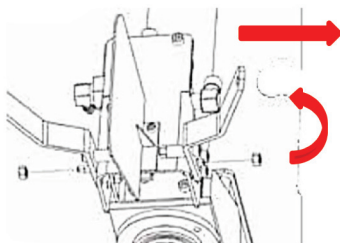

Fig.4
- Fixati cadrul ridicare bustean cu suruburi M12*50, saibe grower ø12, saibe plate ø12 si 2 piulite M12; (fig.4)